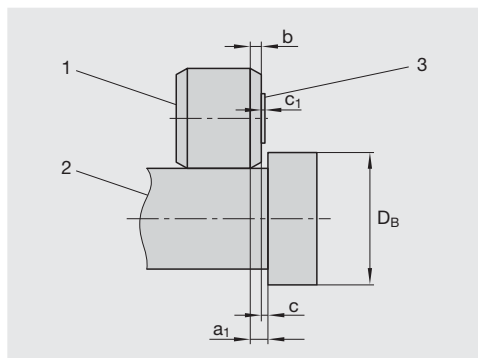

Fig. 1: Distance of the thread roll from the shoulder
The thread can be produced on the workpiece very close to a shoulder, or similar. In such cases, corresponding safety distances must always be maintained (see Fig. 1). The thread roll (1) must have the safety distance  $c$  to the shoulder of the workpiece (2). The screwable thread begins at the distance  $a_1$  from the shoulder. The following applies:  $a_1 = b + c$  [mm]